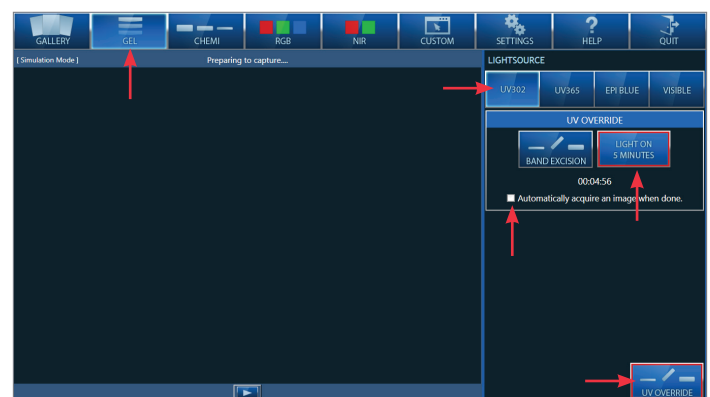
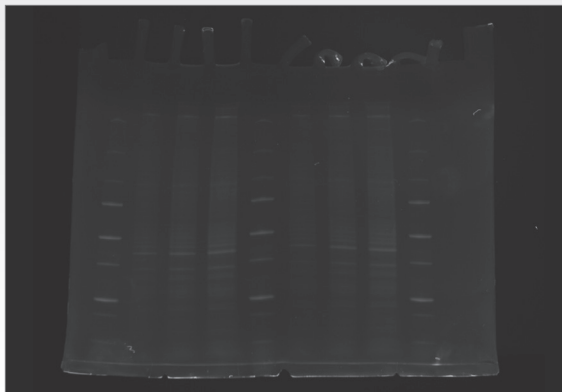

Figure 1. Settings to automatically acquire gel image in cSeries Capture.
Figure 2. Image of total protein on Stain-Free gel after crosslinking.
**Activation and Imaging:** To activate the stain-free gel, the gel was exposed to UV light (302 nm) for 5 minutes. An image of the crosslinked gel was then captured. In the cSeries Capture software, **GEL** was selected in the top menu bar, **302 nm** was selected as the light source, and the **UV OVERRIDE** button was clicked. **LIGHT ON 5 MINUTES** was selected, and the box to **Automatically acquire an image when done** was clicked (Figure 1). The resulting gel image is shown in Figure 2.